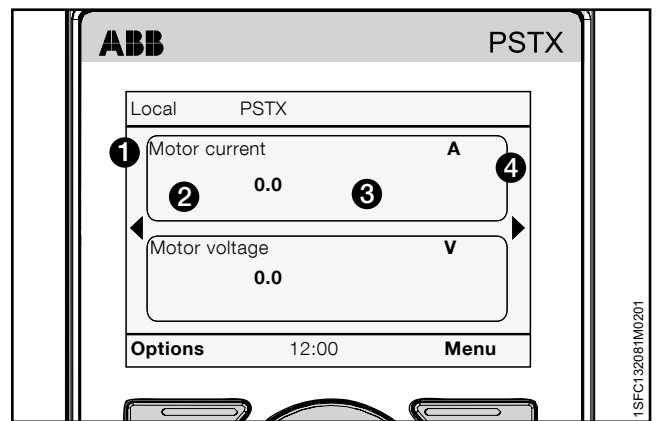

Figure 6.14
Select the display style for the home view. The selected display style is shown by ② in **Figure 6.14**.
Push "Save" to save the value. Decimal numbers are shown in ③ in **Figure 6.14**.
Push  "Save" to save the display name. Display name is shown by ① in **Figure 6.14**.
Push  "Save" to save the value. Value is shown by ③ in **Figure 6.14**.